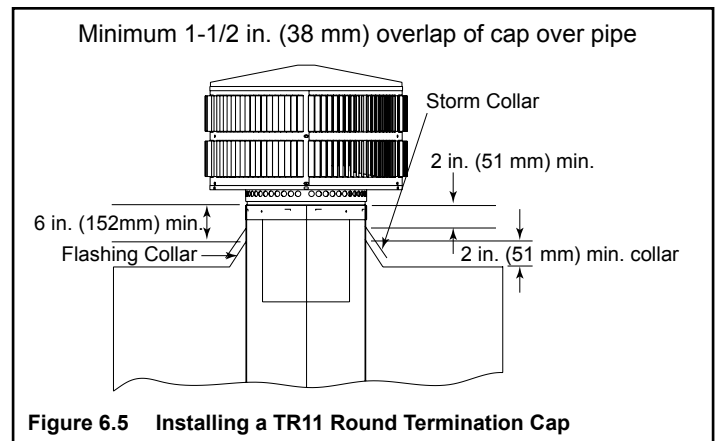

Figure 6.5 Installing a TR11 Round Termination Cap
- Install the chimney sections up through the chase enclosure. When using a TR11 Round Termination Cap, the uppermost top section of pipe must extend 6 in. (152 mm) above the top of the flashing collar to allow installation of the storm collar and termination cap. See Figure 6.5.